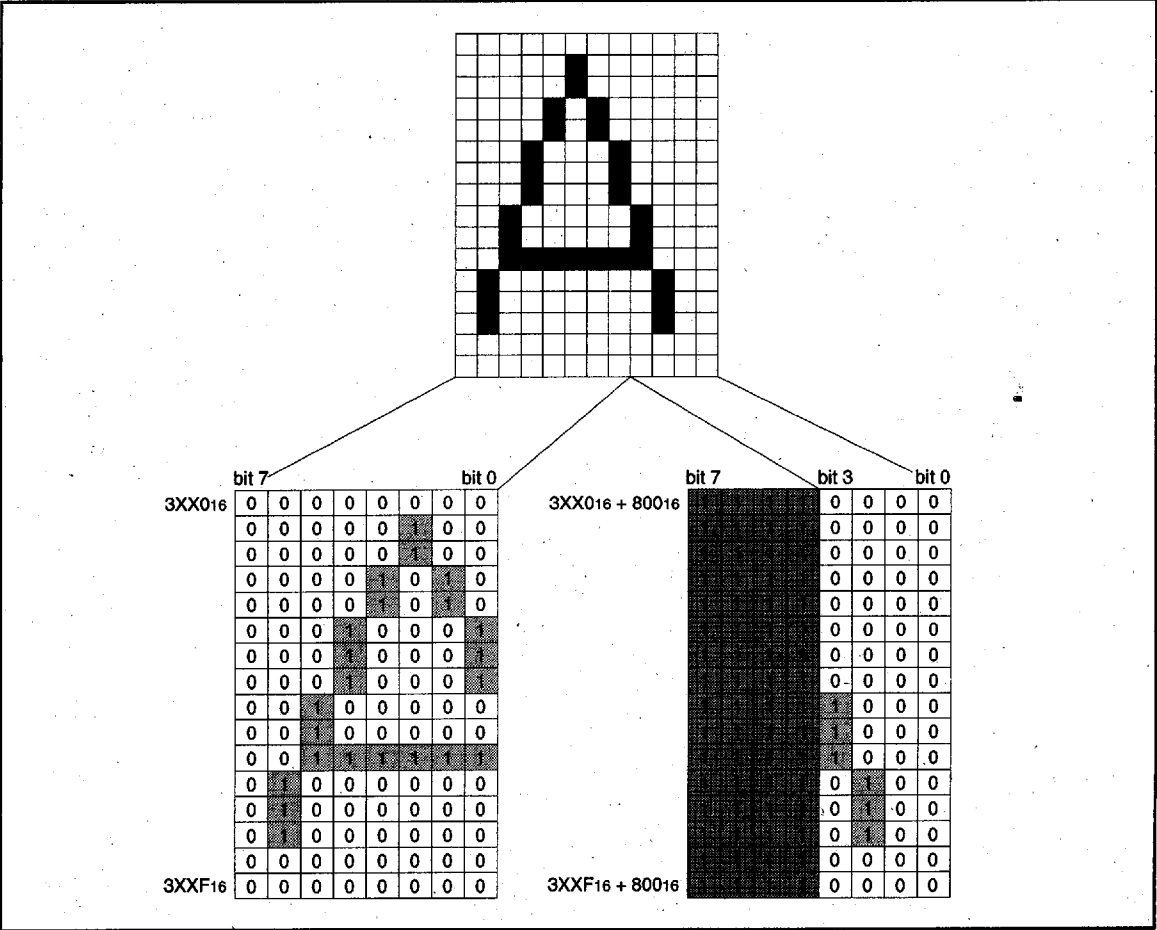

Fig. 30 Display character stored area
The CRT display ROM space is broadly divided into two areas. The [vertical 16 dots] × [horizontal (left side) 8 dots] data of display characters are stored in addresses 3000_{16} to $37FF_{16}$; the [vertical 16 dots] × [horizontal (right side) 4 dots] data of display characters are stored in addresses 3800_{16} to $3FFF_{16}$ (refer to Figure 30). Note however that the four upper bits in the data to be written to addresses 3800_{16} to $3FFF_{16}$ must be set to "1" (by writing data $F0_{16}$ to FF_{16}).
When a character is to be displayed at the first character (leftmost) position in block 1, for example, it is necessary to write the character code to the seven low-order bits (bits 0 to 6) in address 2000₁₆ and the color register No. to the two low-order bits (bits 0 and 1) in address 2080₁₆. The color register No. to be written here is one of the four color registers in which the color to be displayed is set in advance. For details on color registers, refer to (5) Color Registers. The structure of the CRT display RAM is shown in Figure 30. Write the character patterns at Table 8 and 9, when M37102M8-XXXSP is mask-ordered.